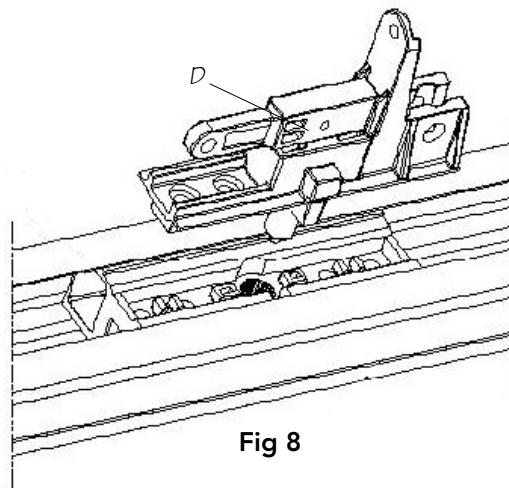

Fig 8
Install the shuttle (D) to the track using 4pcs of M6x23 screws (Fig 8). Tie the clutch cord and ensure it is stable.